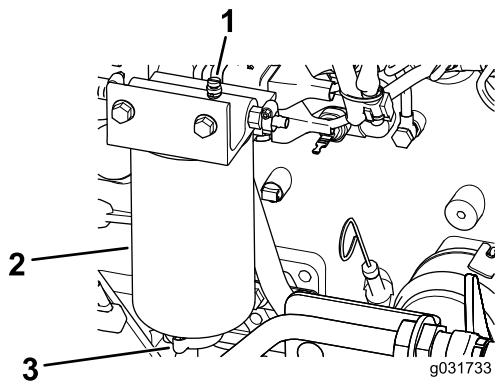

Figure 98
2. Loosen the drain valve on the bottom of the filter (Figure 98).
2. Drain some fuel by loosening the vent plug and opening the drain valve (Figure 98).